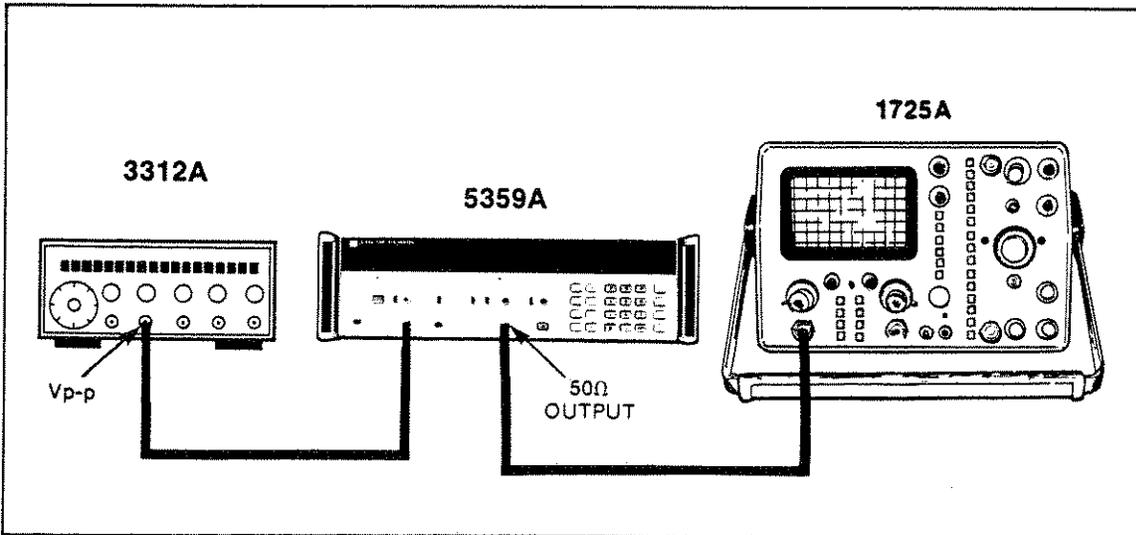

Figure 4-7. Setup for Testing Output Amplitude and Offset
4. Connect the 5359A, 3312A and 1725A as shown in *Figure 4-7*.